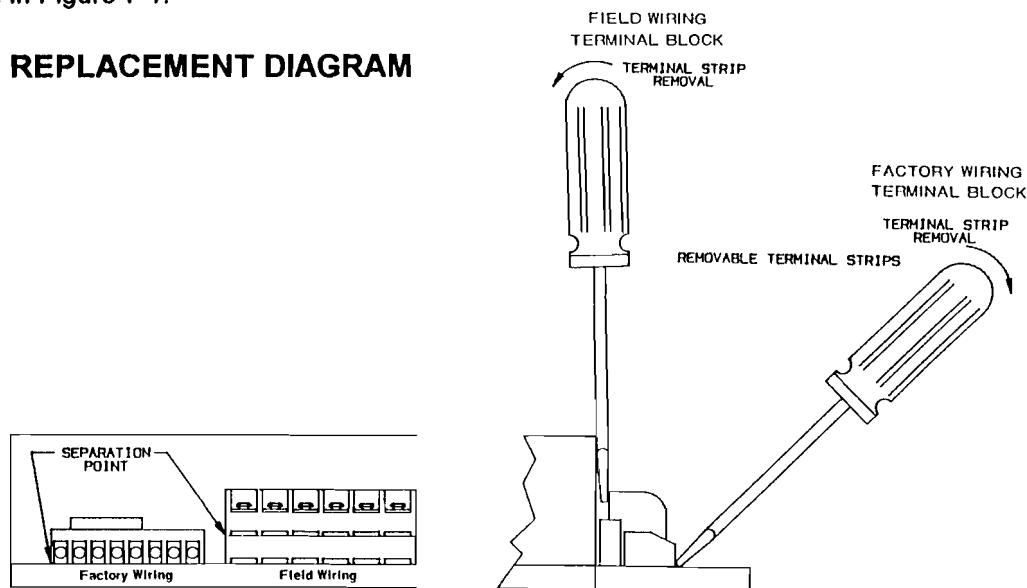

Figure 7-1
3. Remove all field wiring terminal blocks from electronic module. The field wires do not need to be removed from the terminal blocks to do this. The terminal blocks separate at midpoint on the vertical as shown in Figure 7-1.
4. Remove the factory wiring terminal blocks from the electronic module. The factory wiring does not have to be removed to do this. The terminal blocks separate from the module at the board surface as shown in Figure 7-1.
5. Remove the four (4) machine screws from the base of the electronic module. The module can now be removed from the control panel.